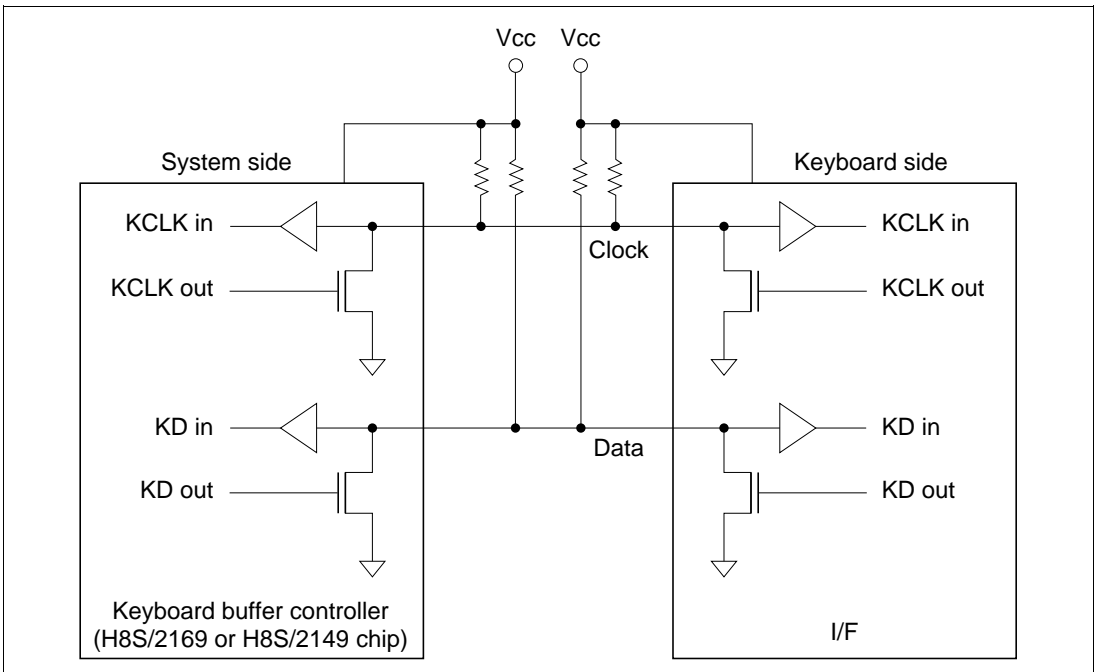

Figure 17.1 Keyboard Buffer Controller Connection
Data transfer using the keyboard buffer controller employs a data line (KD) and a clock line, providing economical use of connectors, board surface area, etc. Figure 17.1 shows how the keyboard buffer controller is connected.